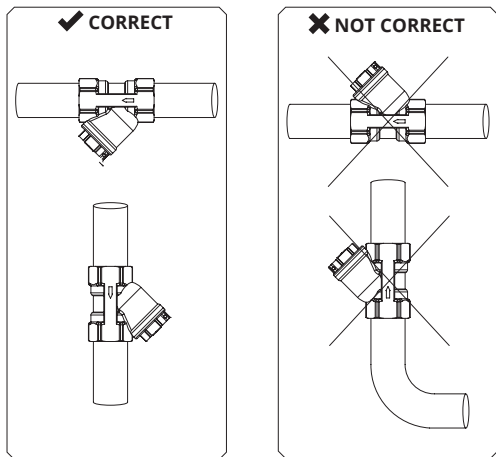

Figure 1. Correct and not correct ways of filter installation
1. Filter is to be installed both in horizontal and vertical position. Plug should be directed down (Figure 1). Arrow on body shows direction of flow of filtered agent.